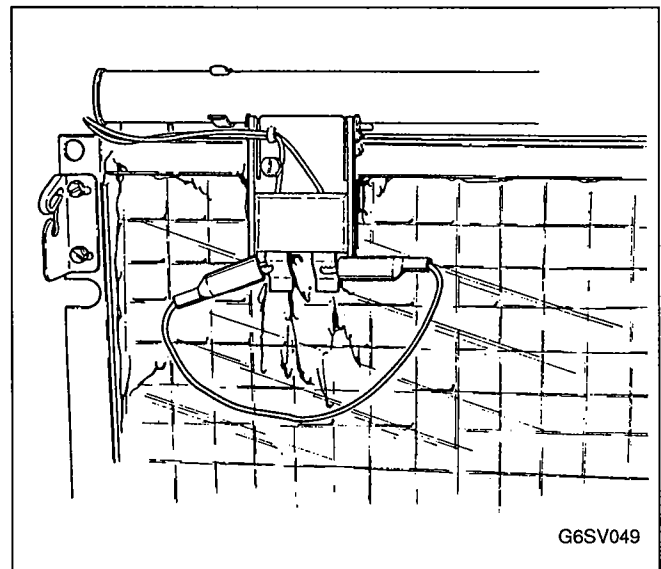

FIGURE 32. JUMPER WIRE CONNECTED TO PROBES
Step 2: Clip the leads of the jumper wire to the ice thickness control probe, Figure 32.